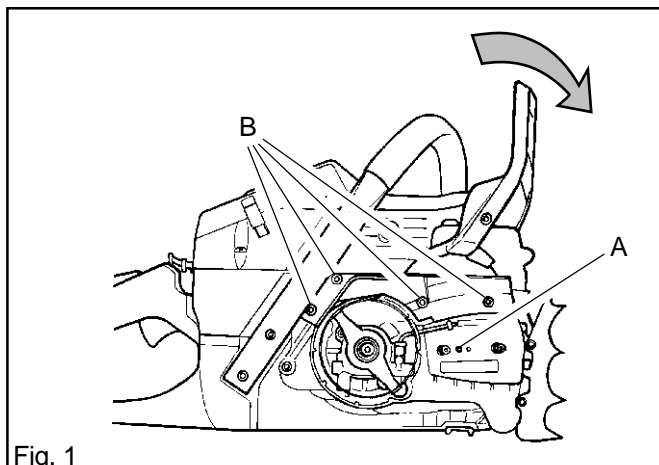

Fig. 1
2. Push the hand guard forward so that the chain brake is on. See fig. 1.
4. Remove the chain guide-plate (A) See fig. 1.
7. Remove the four screws (B) and the cover over the chain brake mechanism. See fig. 1.
5. Fit the cover over the chain brake mechanism. Four bolts (B). Tighten the bolts to 4 Nm See fig. 1.
6. Fit the chain guide-plate with bolt (A). See fig. 1.